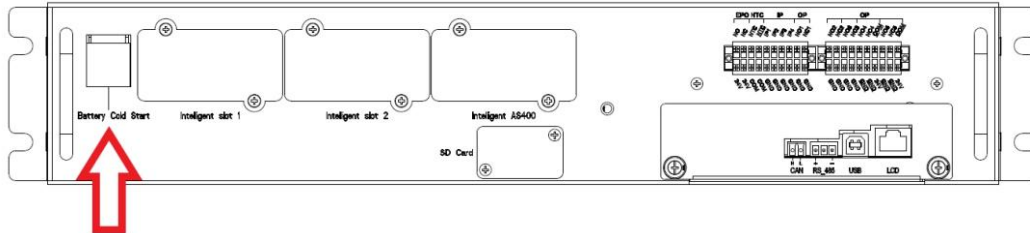

Figure 5-1 The position of the battery cold start button on cabinet
2. Press the red battery start button for 5 seconds, as shown in Figure 5-1. At this time, the system is powered by the battery;